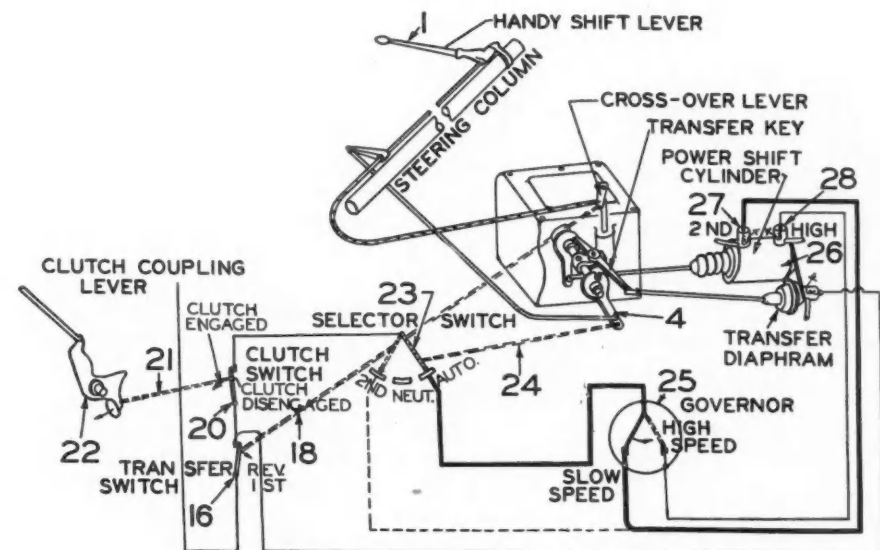

Fig. 3—Complete system for power shifting. Governor switch contact (25) is shown on slow speed side.
While the system is thus prepared for power shifting, certain additional units are required to accomplish it, and these are shown in Fig. 3. They include clutch switch 20 connected to clutch coupling lever 22, and selector switch 23 operated from hand-shift lever 4 through rod 24. Also shown in the drawing are governor switch 25 and power-shift cylinder 26, with second-gear solenoid 27 and high-gear solenoid 28. In Fig. 3 the shift lever is shown in the second-high position, hence transfer switch 16 is closed and the circuit established up to clutch switch 20. When the clutch is disengaged the clutch switch is closed through its connection to clutch-coupling 22 by operating rod 21. The circuit is now completed through the automatic side of selector switch 23 to the slow-speed contacts of governor switch 25 and second-gear solenoid 27. As second-gear solenoid 27 is energized, vacuum is admitted to the front end of power-shift cylinder 26, and as the transfer key 6 is engaged with power-shift lever 9, second gear is engaged. As soon as the shift is completed, and the clutch is engaged, the circuit through second-gear solenoid 27 is broken at the clutch switch, whereby the solenoid is de-energized.
In Fig. 3 the governor-switch is shown closed on the low-speed side, indicating that the car is operating at low speed, in which case the circuit is completed through the second-gear solenoid. When a higher speed is reached, the governor will automatically break the circuit through the second-gear solenoid and close that through the high-gear solenoid 28. This causes a power shift into high gear.